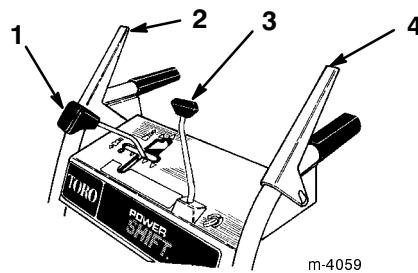

Figure 13
- **Speed Shift Control** (Fig. 13)—The control has a neutral position, four forward speeds, and two reverse speeds. It also controls the power shifting of the wheels. To select a speed, move the shift control to the desired position.
- **Auger/Impeller Drive Control Lever** (Fig. 13)—To engage both the auger and impeller, press the lever against the right handgrip. To disengage, release the lever.
- **Traction Control Lever** (Fig. 13)—To engage the traction (wheel drive), press the lever against left handgrip. To stop traction, release the lever.
- **Discharge Chute Control** (Fig. 13)—Rotate the discharge chute control clockwise to move the discharge chute to the right and counterclockwise to move the chute to the left.
2. Make sure that the auger/impeller drive control lever and the traction control lever are in the *Disengaged* position (Fig. 13).
4. Release the traction and the auger/impeller drive control levers (Fig. 13).
1. Release the traction drive control lever (Fig. 13).